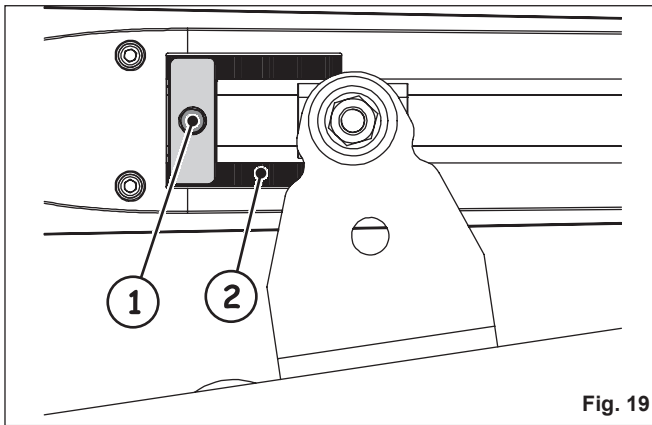

Fig. 19
3. Loosen the securing screw, Figure 19 Ref. 1. The screw does not need to be completely removed.
⚠ The mechanical stop is coupled to a toothed sector, Figure 19 Ref. 2.